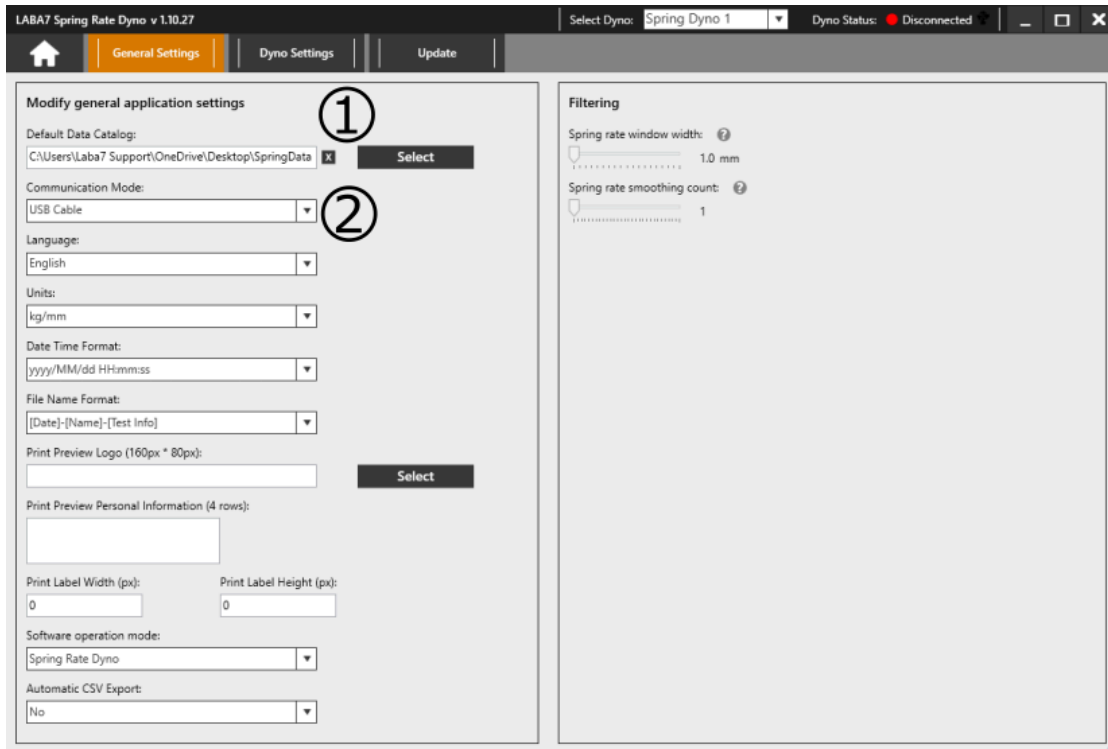

Figure 10
2. In the **General Settings** tab, select the **Default Data Catalog** by clicking on the **Select** button (Figure 10 – Step 1). This catalog will be used to store test data files.
3. Select **Communication Mode** by clicking on the drop-down menu (Figure 10 – Step 2):